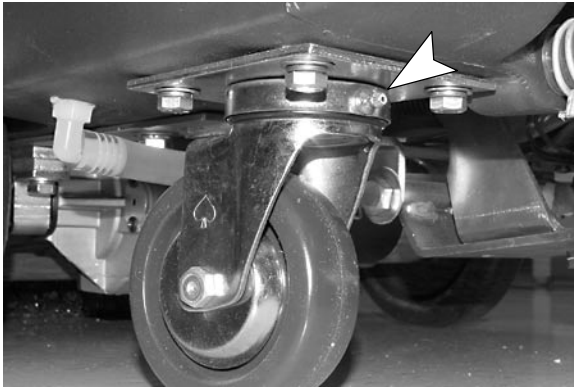

FIG. 41
- Lubricate caster grease fittings with a water resistant grease (Figure 41).